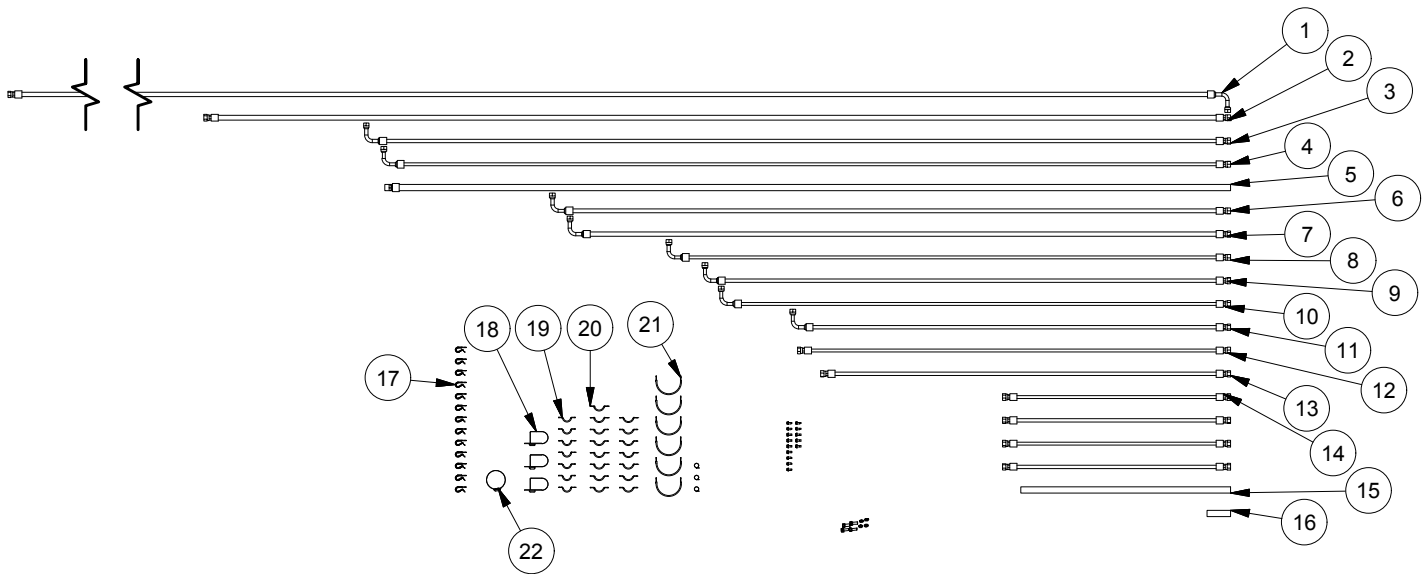
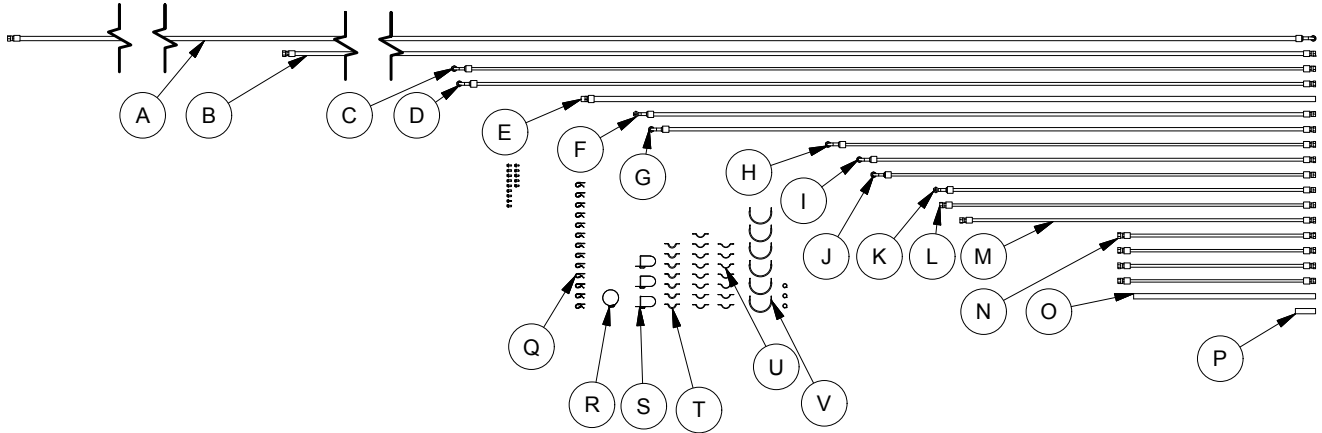
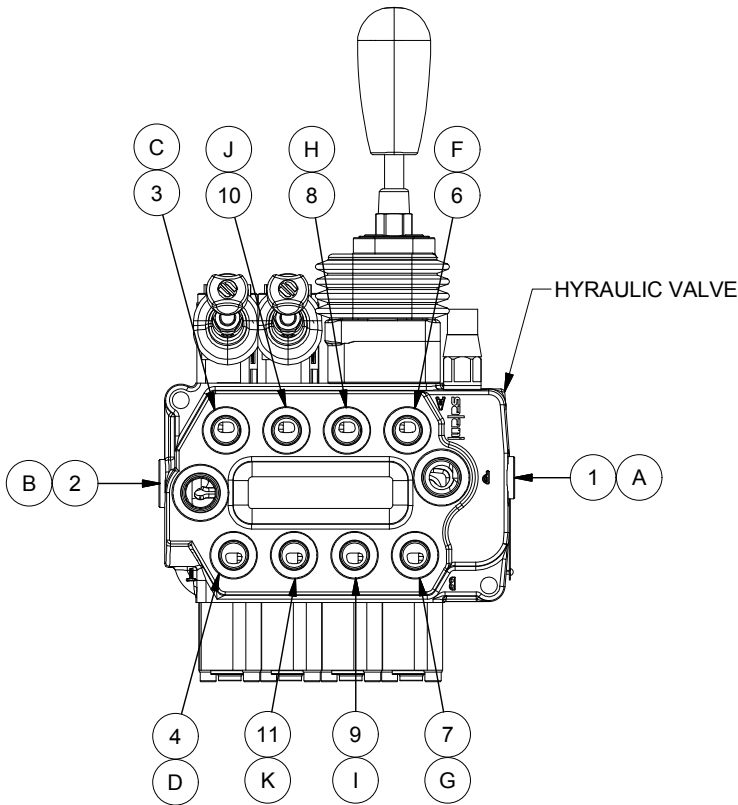

FIGURE 45
FIGURE 46
FIGURE 47
9. The 20-35/45 Hydraulic Hoses and Clamps are numbered as shown in Figure 45 (for 20-55 skip this step and proceed to step 10). Simply connect and match the hose numbers labeled in the Hydraulic Valve PN# 5663 as shown in Figure 47. Hoses are to be attached to the frames which is shown in every illustration. The Clamp item numbers will tell you which clamp to use to hold the hoses on the frames. Use Zip Ties to some areas as necessary in order to hold the hoses together. 20-35/45 Hydraulic Hoses (found in Hose Kit PN# 7721), and Clamps (found in Clamp Bag PN# 7705) can be found in Hydraulic Kit PN# 5968. See Figure 47 - 53 for details.
10. The 20-55 Hydraulic Hoses and Clamps are using letters as shown in Figure 46. Simply connect and match the letters labeled in the Hydraulic Valve PN# 5663 as shown in Figure 47. Hoses are to be attached to the frames which is shown in every illustration. The Clamp item letters will tell you which clamp to use to hold the hoses on the frames. Use Zip Ties to some areas as necessary in order to hold the hoses together. 20-55 Hydraulic Hoses (found in Hose Kit PN# 7731), and Clamps (found in Clamp Bag PN# 7705) can be found in Hydraulic Kit PN# 6145. See Figure 47 - 53 for details.